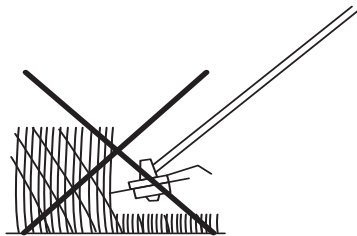
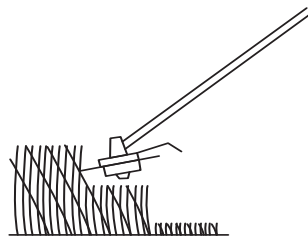

Fig. 14c
Fig. 14d
- > Ensure the cutting attachment remains clean and free from off-cuts that may cause it to jam. Check regularly. Stop the engine, set the ignition switch (12b) to “STOP” and disconnect the spark plug connector (2) before checking.
- > Trim longer grass in stages; do not cut long grass in one cut (Fig. 14c). For the best results, cut longer grass in steps (Fig. 14d).